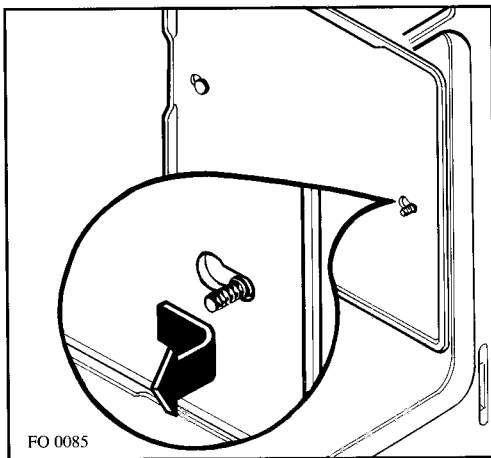

Fig. 7
2. Slide the side panels toward yourself to release them from their retaining pins, then lift away from the oven wall (Fig. 7).